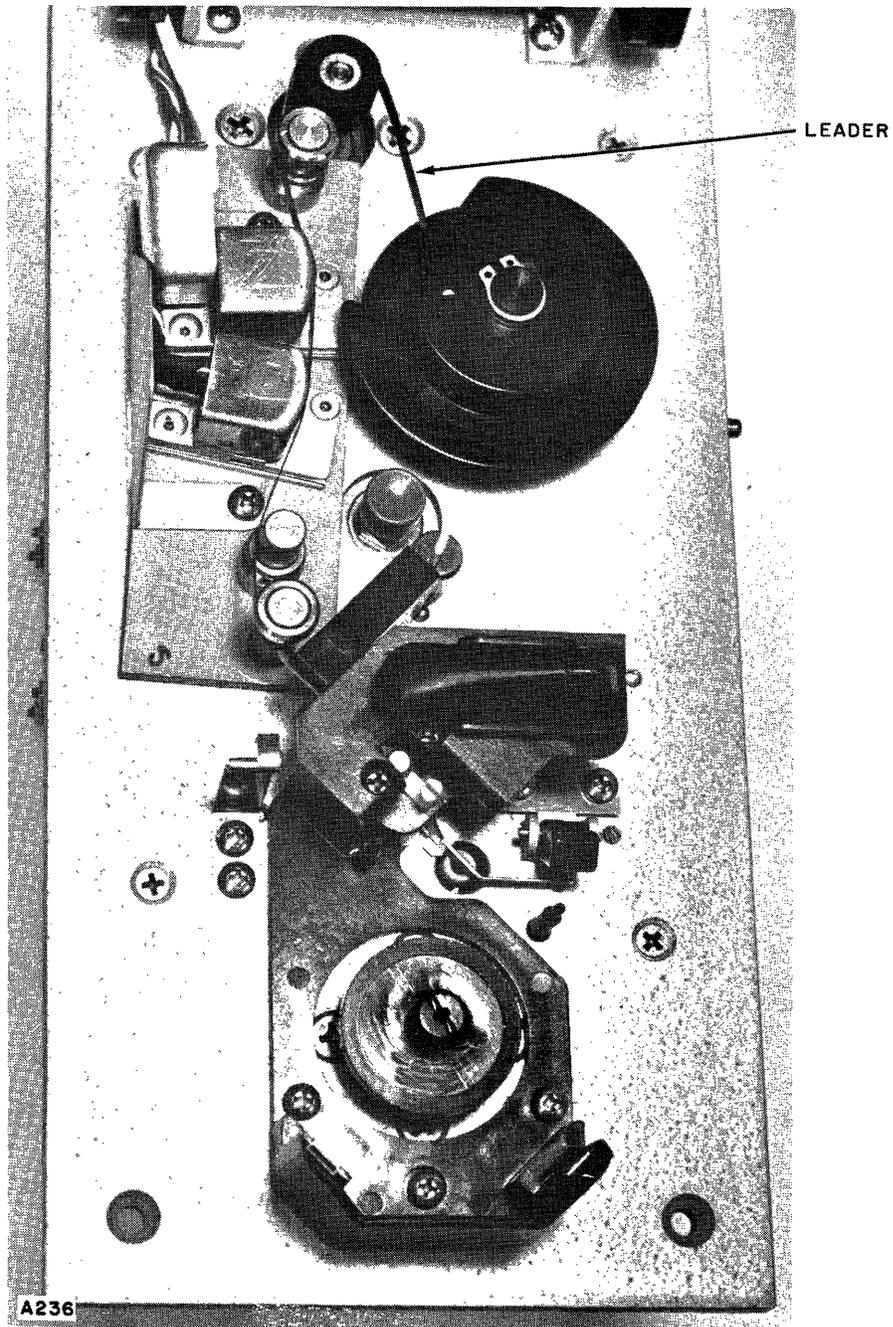

Figure 4-9. Leader Shown in Tape Path
- m. Place the leader along the tape path, making sure the leader is in the proper grooves of the tape guides. Return the loader to the cartridge insertion position. (See figure 4-9.)